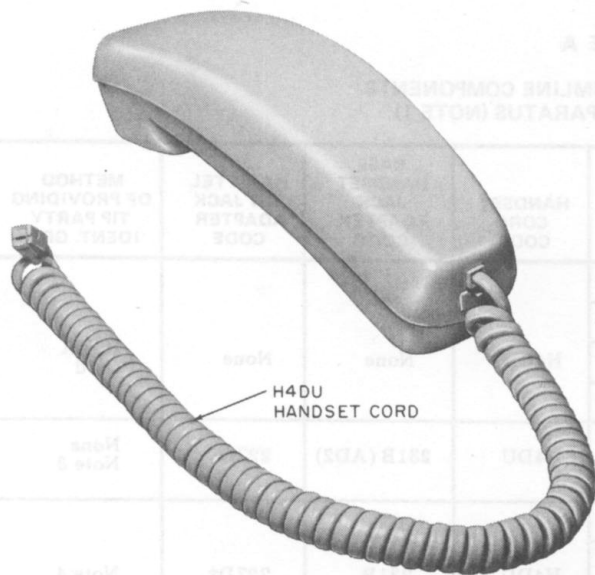

Fig. 4—H4DU Handset Cord Installed in Hand Telephone Set
2.04 The 220A and 2220B handsets are equipped with jacks which accept the large (maxi) plugs for the H4DB, H5AA, or H5AD handset cord. The 220B, 220C, 220AL, 220AM, 226A, 2220C, 2220BM, and 2226A handsets are equipped with jacks and/or adapters which accept the small (mini) plug for the H4DU (modular) handset cord (Fig. 4).